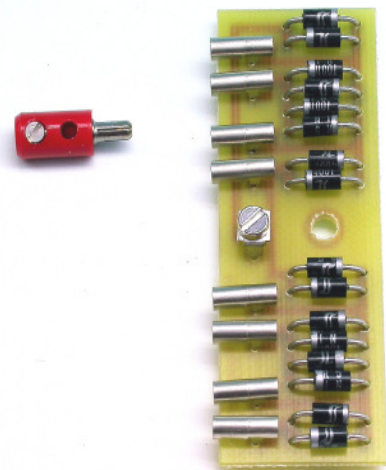

figure 1: The voltage reduction component
2. The product can be seen in figure 1. These instructions are part of the product. Please retain them well.